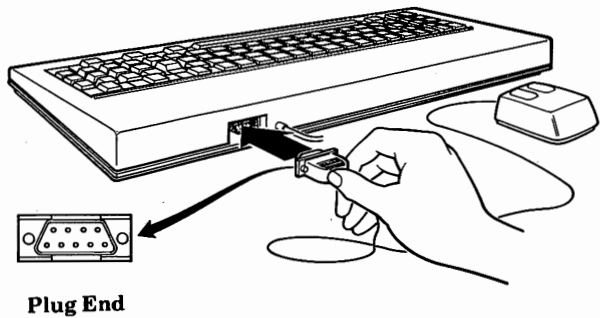

Figure 1-10. Connecting the mouse (optional).
- Look at the end of the plug on the mouse cable. Notice that the ring around the pins is wider on one side. Turn the plug so that the wider side is down, as shown in Fig 1-10.